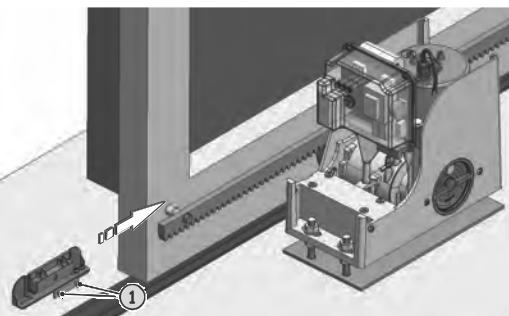

Fig. 18
- ③ Manually take the gate to opening position, leaving 4 cm from the travel limit mechanical stop.
- ④ Slide the magnet nearest to the operator on the rack, in the direction of the motor - see figure 18. As soon as the LED on the board, referring to the travel limit stop, goes OFF, take the magnet forward by another 10 mm and fasten it with the appropriate screws (Fig. 18 ref. ①).
- ⑤ Do likewise for the other magnet.
⑥ Take the gate to about halfway of its travel and relock the system (see paragraph 9).